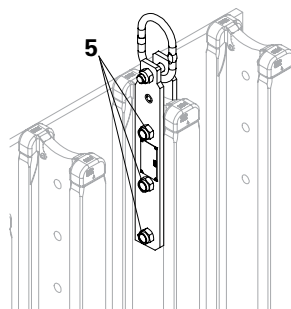

Fig. 7
2. Release the three nuts (5) by turning in an anti-clockwise direction and remove, SW 30. (Fig. 7)
3. Remove the three bolts (4).
4. Release the three nuts by turning in an anti-clockwise direction and remove, SW 30 (Fig. 7)